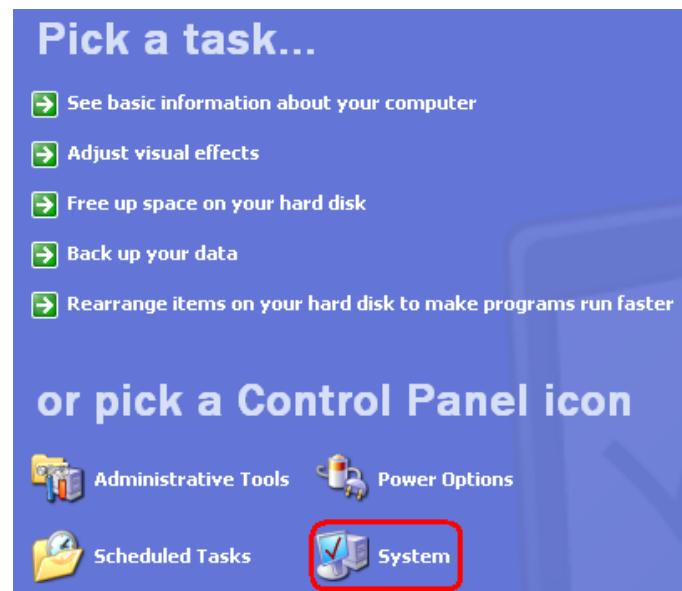

Figure 7-3: Access the System
Step 5: The screen in **Figure 7-3** appears.
Step 6: Double click the SYSTEM option in **Figure 7-3**.